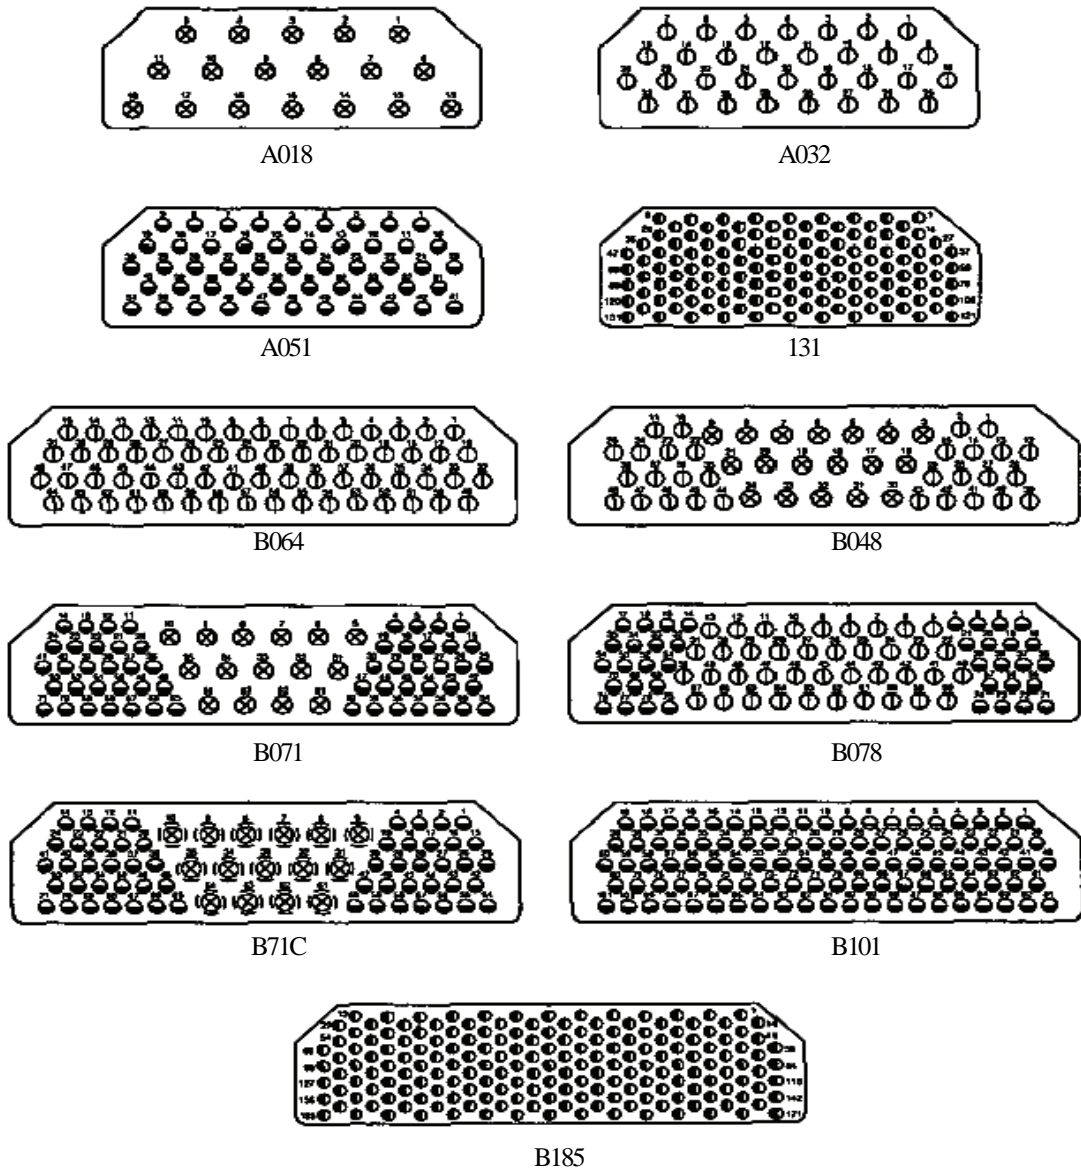

Figure 4. MIL-DTL-83733 Insert Configurations
31. **INSERT CONFIGURATION.** The insert configuration is the manner in which contacts are placed within insert in a standard configuration. The contact symbol identifies size of contact in insert (Figure 4). All arrangements identified in Table 2 are illustrated (Figure 5).